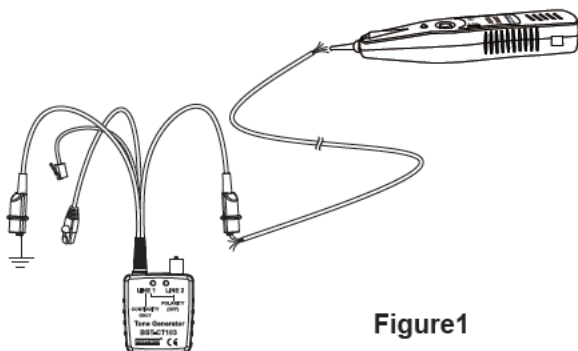

Figure1
Connect one test lead to a terminated wire and the other test lead to earth or equipment ground. (See figure 1)
- a. Connect the test leads to the pair, or attach one lead to ground and one lead to either side of the line. (See figure 1)